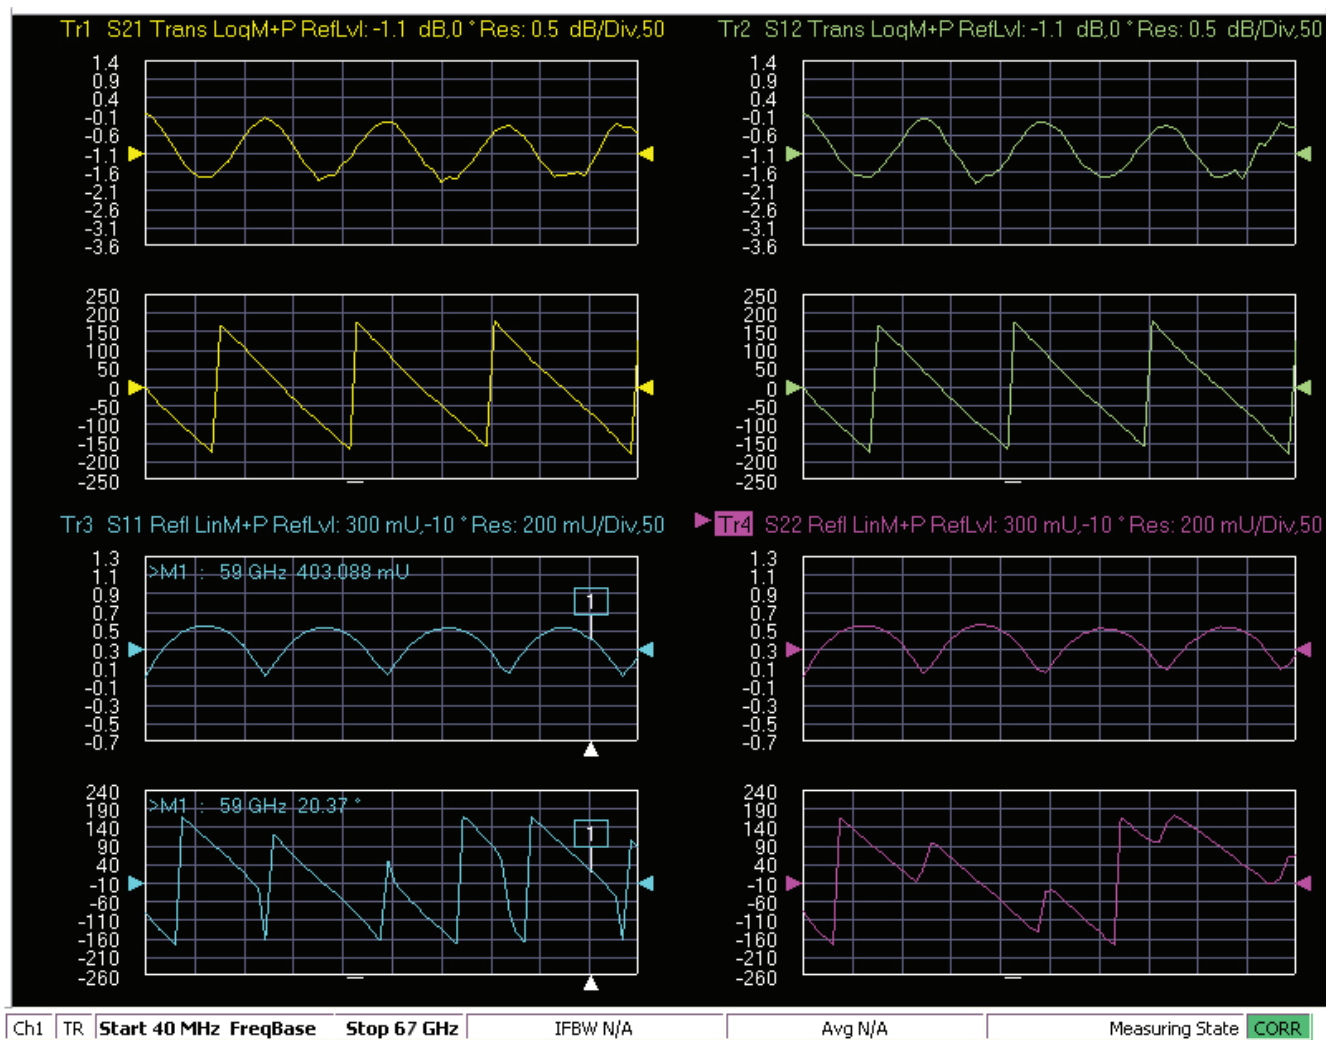

Figure 2-47. MS4640A/B Series VNA, Typical Mismatched Thru Data in Low Band
7. When the test completes, the program returns to the main menu described Section 2-9 "Application Interface – Main Menu Tab" on page 2-25, and the display should look similar to Figure 2-47. This is a